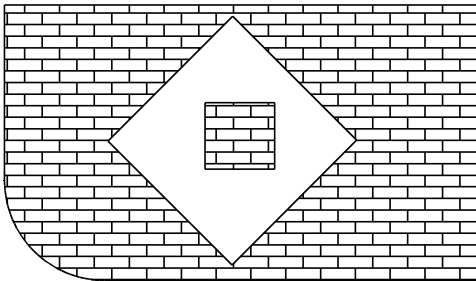

Figure 15.1: Hatching using the Normal hatching type
**Shortcut:** Press (H) or (Shift) + (H) to access the Hatching menu.
- Normal – toggle this on to alternate hatching within defined boundaries (see Figure 15.1).